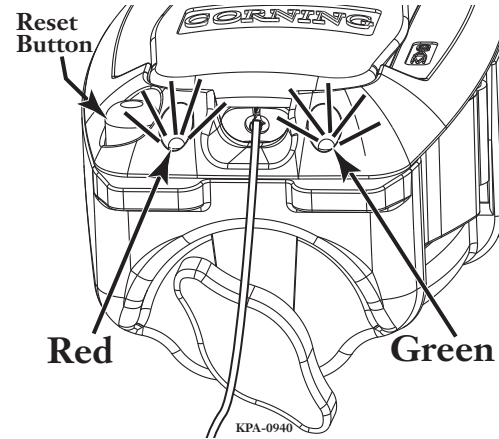

Figure 42 — Check Termination Lights
Step 3: Check the termination lights (Figure 42).
Step 4: Turn the Crimp Knob 180 degrees in either direction (Figure 42).